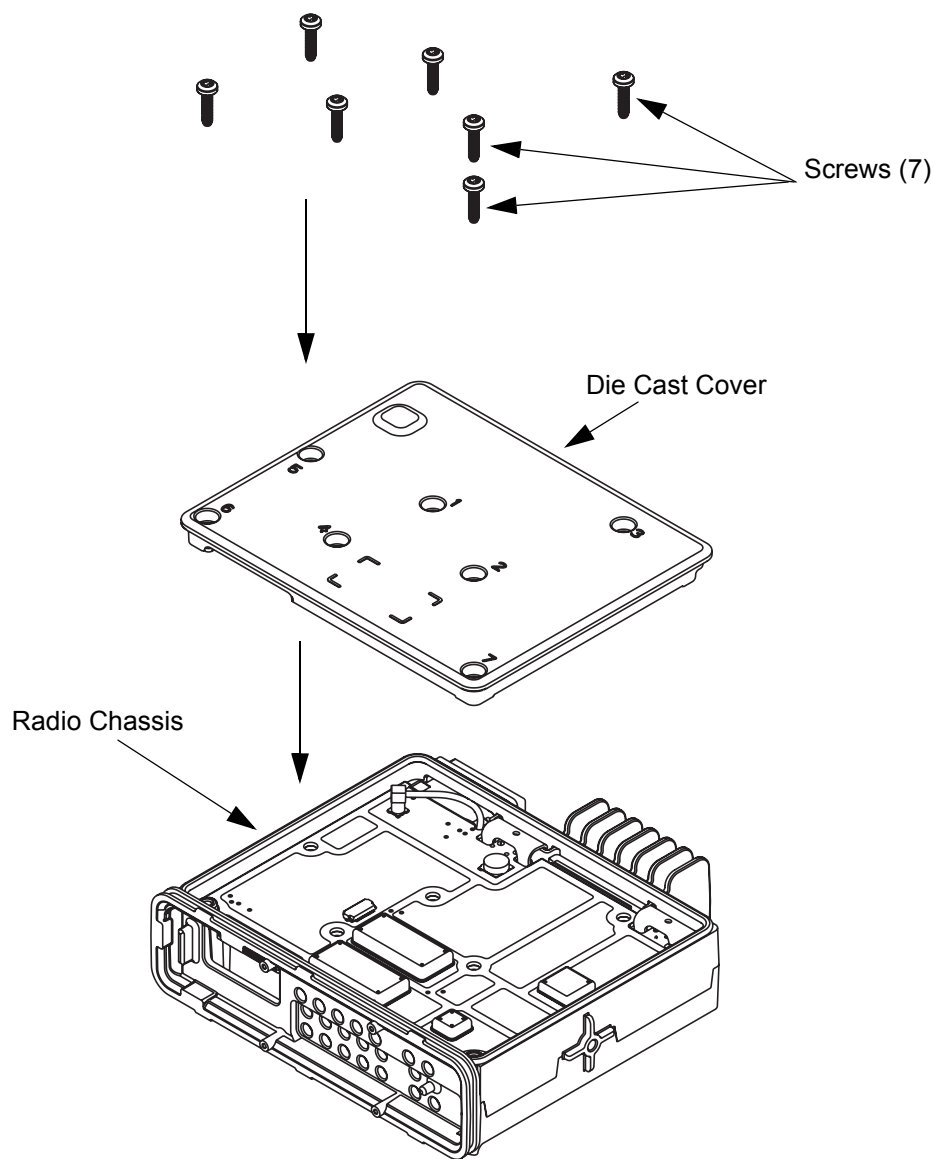

Figure 5-56 Assembling Die Cast Cover onto Chassis
6. Place the die cast cover onto the chassis orienting the die cast cover so that screw holes 6 and 7 align with the bosses on the chassis as shown in Figure 5-56.